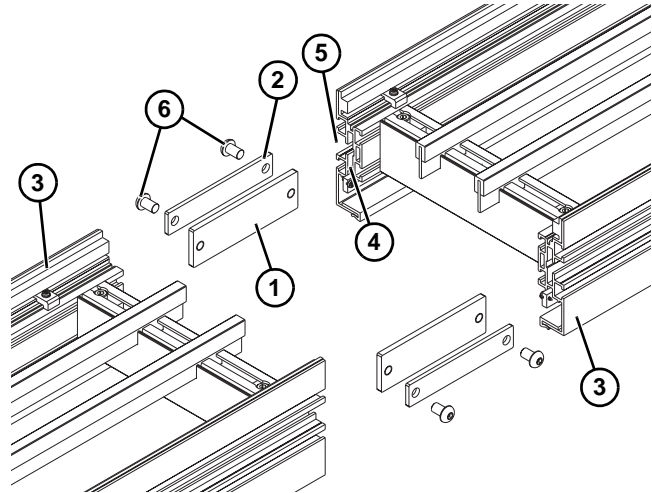

Figure 4
Typical Connecting Components (Figure 4)
2. Loosely assembly each side clamp plate (Figure 4, item 1) and cover plate (Figure 4, item 2) with two button head screws (Figure 4, item 6).
3. Line up conveyor sections, and install clamp plates (Figure 4, item 1) into inner channel (Figure 4, item 4) of conveyor section and cover plate (Figure 4, item 2) into outer channel (Figure 4, item 4). Secure with two button head screws (Figure 4, item 3) on each side. Tighten screws to 84 in-lb (9 Nm).